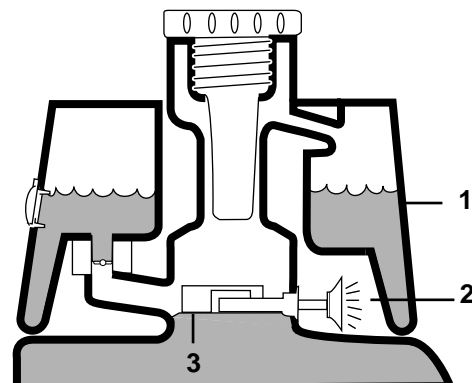

Figure 12
3. Insert a clean rod or screw driver into the tank neck and gently push down on the switch float (Fig. 12). The alarm should sound after a one-second delay.